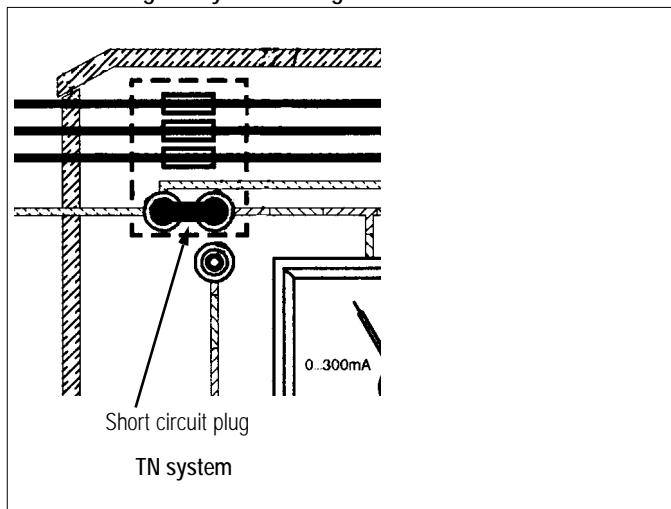
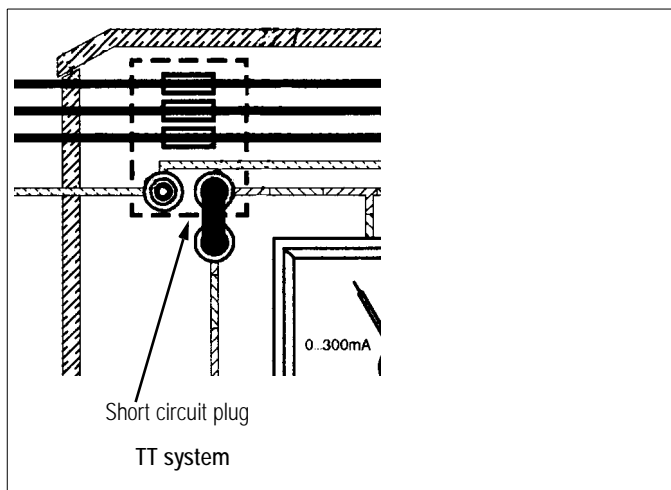

Bild 6.1-1
Bild 6.1-2
- ⇨ Set the desired system configuration with the short circuit plug (accessory), see Bild 6.1-1 and Bild 6.1-2.
In the TT system [Bild 6.1-2], you can connect different grounding resistances with the switches R_B or R_E [Bild 8.1-1] for demonstration purposes.